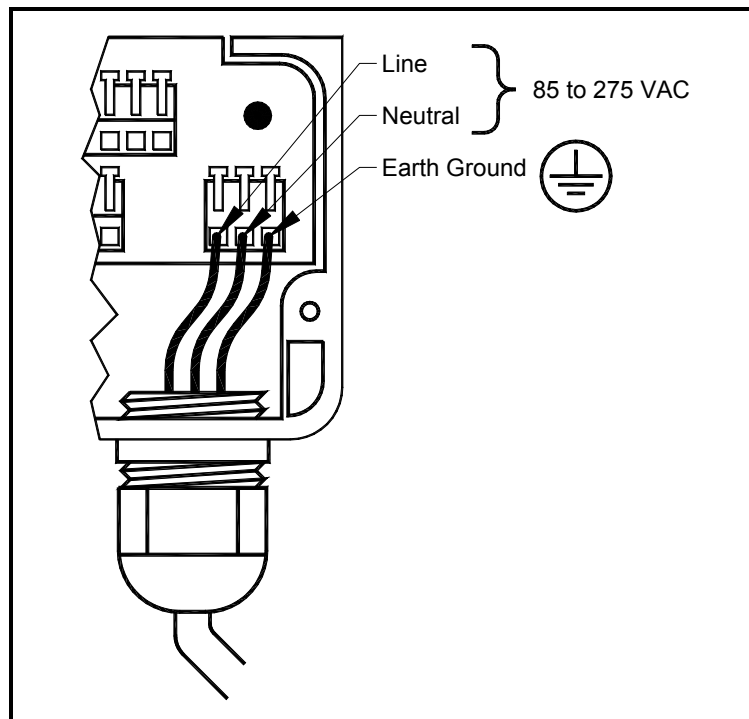

Figure 2-9: AC Power Wiring
4. Connect the wires to the J2 terminal block: Line input to Pin 1, Neutral to Pin 2, and Earth Ground to Pin 3 as shown in Figure 2-9 below. Voltage ranges from 85 to 275 VAC are supported.